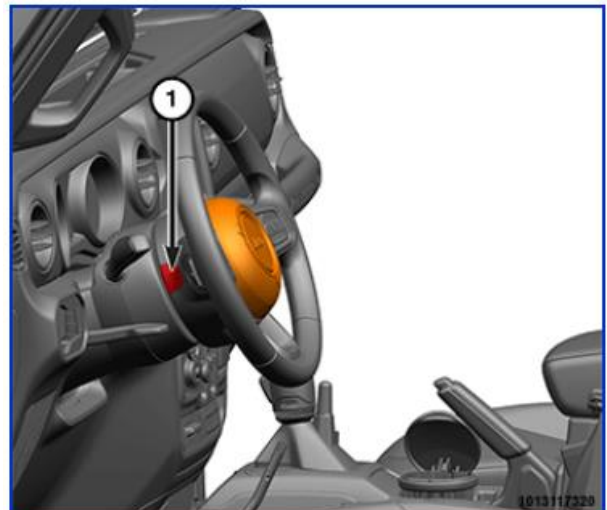

Figure 1 – Access Panel Closeouts
4. Remove the two access panel closeouts (1) on the steering wheel near each of the two horizontal spokes (Figure 1).